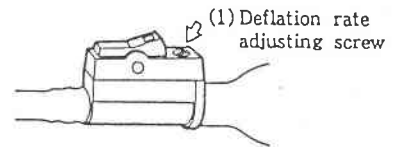

Fig.7-1 Deflation rate adjustment
Raise the pressure to around 200 mmHg and begin to release the air. Adjust so that the descent from 160 mmHg to 80 mmHg takes 20 to 30 seconds. (A shorter method is to measure from 160 mmHg to 140 mmHg and control it to 3.5 to 5.3 seconds.) As shown in Fig 7-1 turn the slot (1) with a screwdriver.